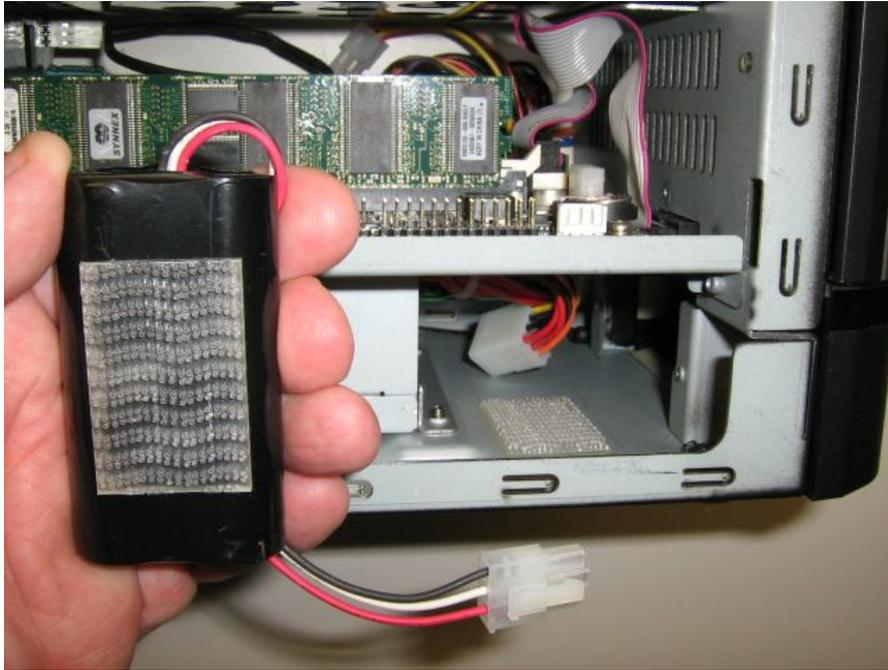

Figure A-4 Aligning the Battery
1. Hold the battery as shown to align the fastener strips. Make sure the battery cable and connector is located nearest to the battery socket J11 on the controller (see Figure A-4).